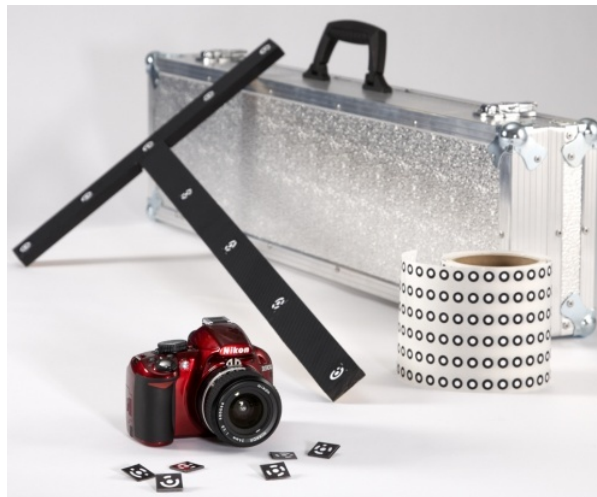

Figure 58: *Scan Reference* kit
2. Place the cross (Figure 58) on the scene, ensuring that it rests firmly, and it is seen from most points of view. Also double check that all targets on the cross are clearly visible.
This synergy of technologies is possible thanks to Artec 3D-scanner and photogrammetry solutions. Several third-party photogrammetry offerings are available on the market. *Scan Reference* photogrammetry is one example. The *Scan Reference* kit includes hardware and software (see Figure 58), a digital camera, a reference-scale cross, non-coded sticky targets (which Artec Studio uses to match the captured 3D data to the photogrammetric measurements), and reusable magnetic coded targets (required to automatically carry out measurements in the *Scan Reference* software).